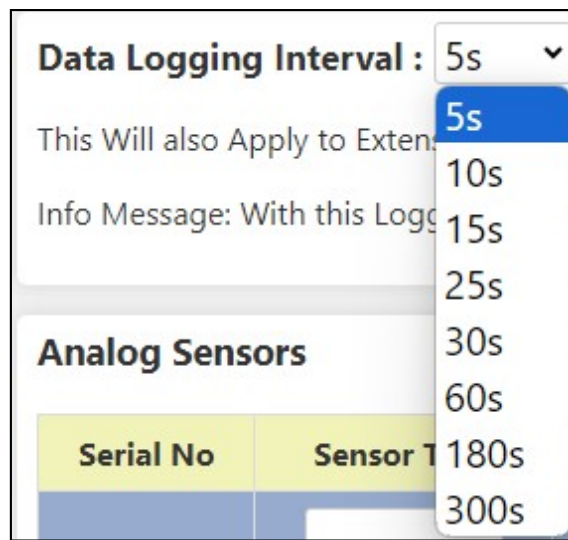

Figure 44: Drop-Down menu for Data Logging Interval
1. Navigate to the drop-down menu as shown in Fig 44.